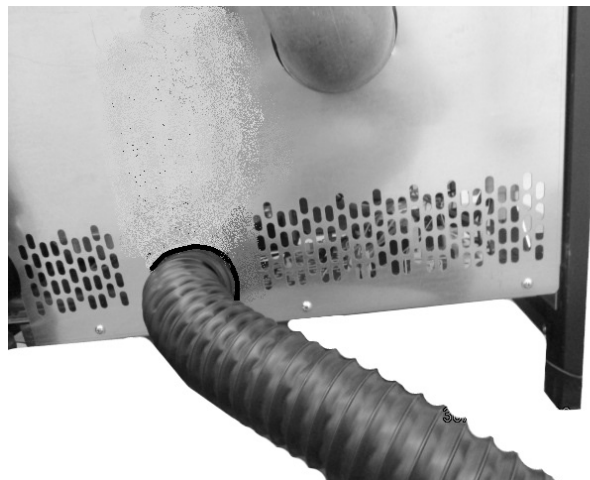

Fig. 9 - Phase 1
- Insert the female tube \varnothing 6 cm (see Fig. 9).